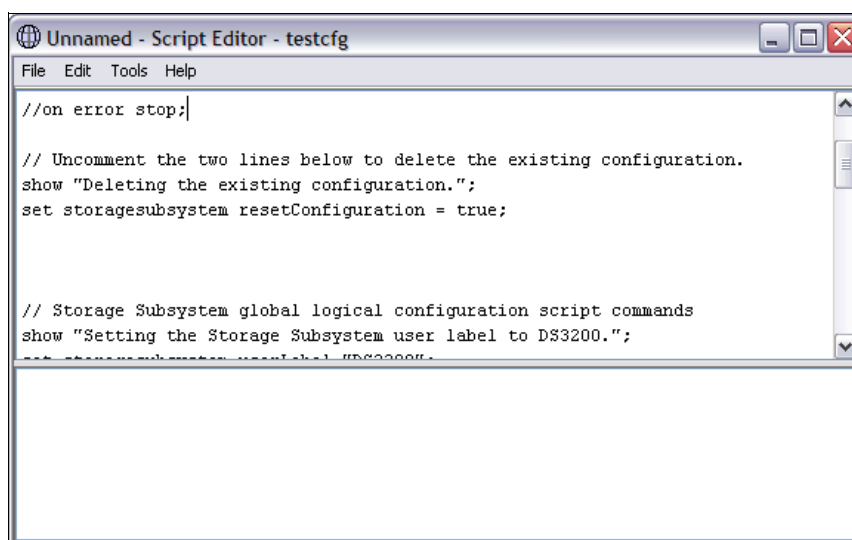

Figure 8-6 Uncomment lines to delete the existing configuration before uploading a new one
- b. If you want to restore your subsystem’s configuration before the new one is uploaded, select **Edit** and look in the Script Editor for the following lines and uncomment them, as shown in Figure 8-6. After uncommenting these two lines, select **Tools** → **Verify** → **Execute** from the Menu bar to execute the script and upload the new configuration.